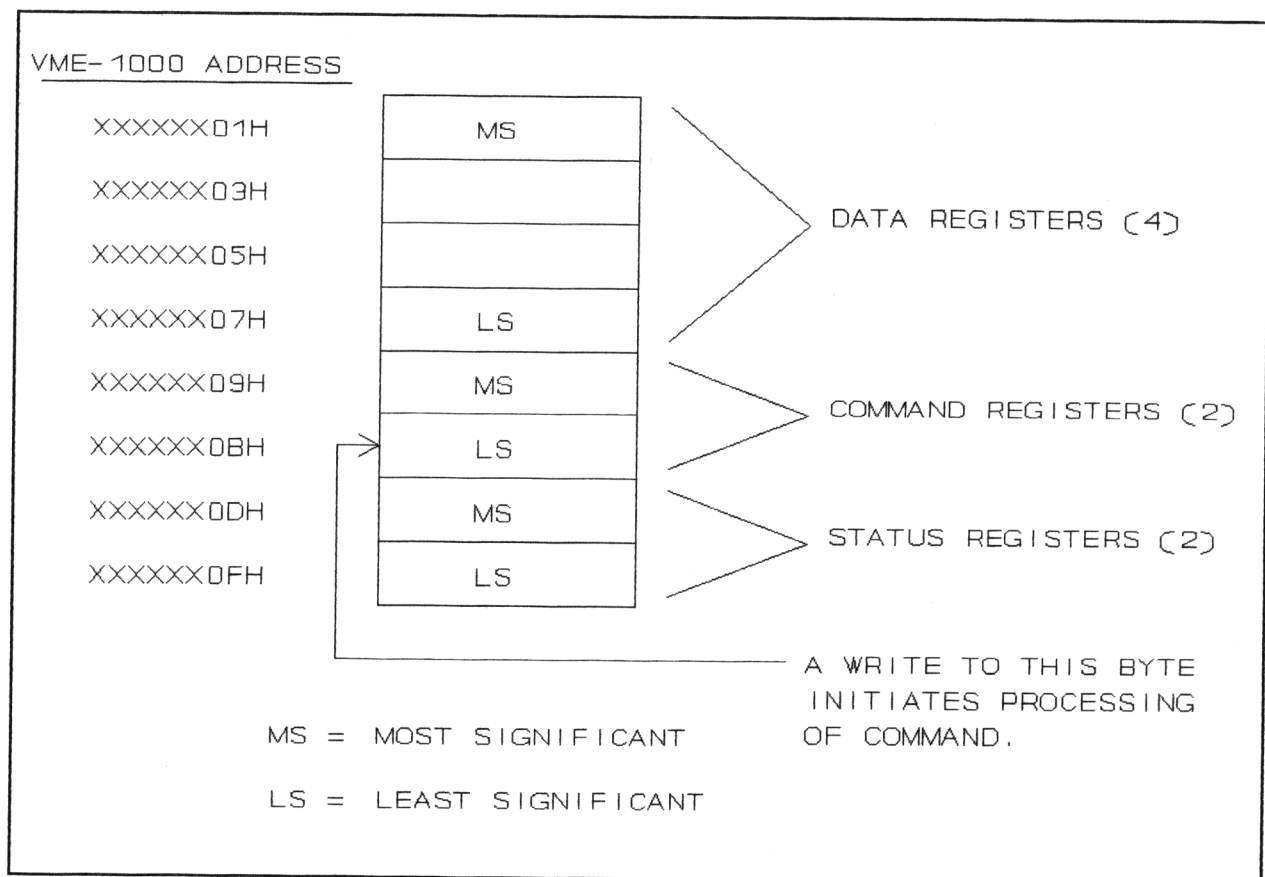

Figure 6-1 Mailbox Memory Configuration
The VME-1000 Single Axis Controller is accessible by a VMEbus master via sixteen dual ported one byte registers configured as mailbox memory (Figure 6-1). Eight of the registers are used for interface to the axis controller, the remaining eight are reserved for future modifications. All sixteen registers are read/write registers by the VMEbus master (8 bit odd addressing) and accessible at any time. The controller will not begin the processing of a command until the least significant (LS) byte of the Command Word is written to its mailbox.